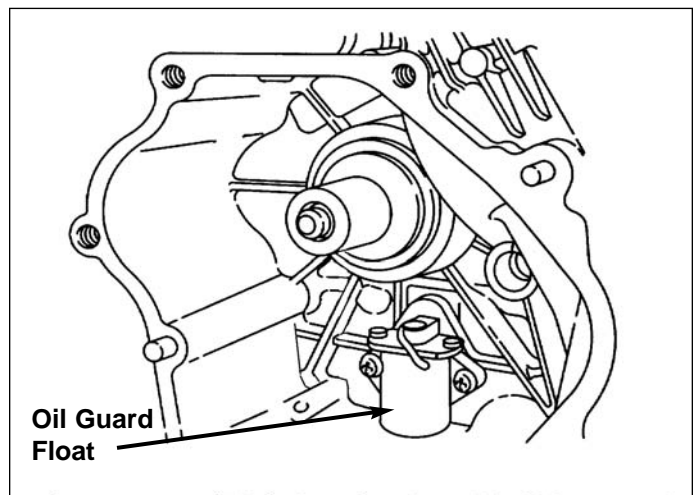

Figure 108 - Oil Guard Float
4. Remove external nut from oil sensor. Remove oil sensor from crank case. See Figure 108.